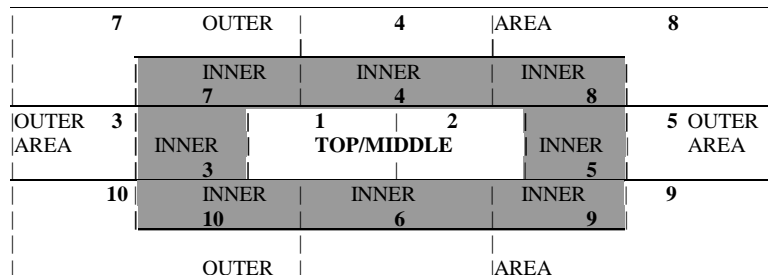

Figure 2: Sub sampling points for stockpile/holding areas/transport boxes (coned stockpile, horizontal, and vertical surfaces).
- b. If necessary, dig approximately one (1) foot in depth from the outer surface of the stockpile/holding area/container to remove all coarse/eroded material. Provide sufficient area to adequately collect core sub samples.
- c. Using the sampling tube, collect at least ten (10) cores at a minimum depth of five (5) feet. If there is main loading area, most of the sub samples can be collected from this area, otherwise refer to Figure 2 for locations to collect sub samples.